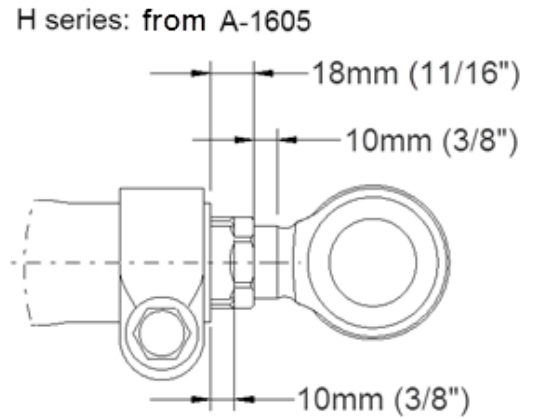

FIGURE 12
15. Adjust sleeve to the values of FIGURE 12.